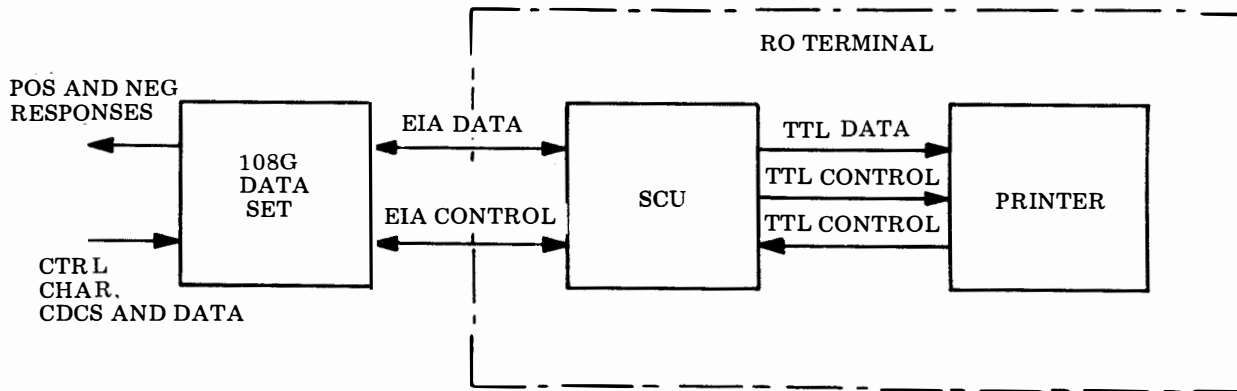

Fig. 2—Control, Selection and Data Flow at Remote Station
2.02 When the system is active on-line, originating carrier from the 108F data set at the system host location is normally detected at the 108G data set associated with each remote RO station. With power ON to the station data set, the EIA control leads, Data Set Ready (CC), Carrier Detect (CF), and Clear to Send (CB)† are on. This enables the Selective Calling Unit (SCU) in the terminal to accept control characters and two character Call Directing Codes (CDCs). See Fig. 2 for Control Selection and Data Flow and 2.05 for control characters.